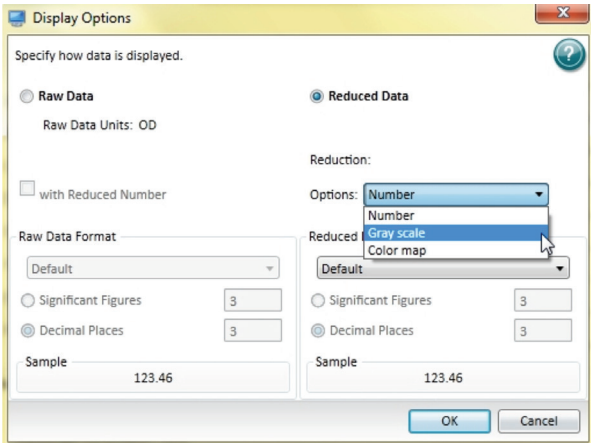

Figure 5. Display Options dialog box. Gray scale and color map options provide a way to quickly visualize the data across an entire microplate.
- For quick visualization of the plate it is useful to display the data using the gray scale or color map option. Click the Display Options button in the Plate section's toolbar to open the Display Options dialog box (Figure 5), then select 'Gray scale' or 'Color map' from the dropdown menu. If desired, you can also select to have the reduced number displayed in each well.